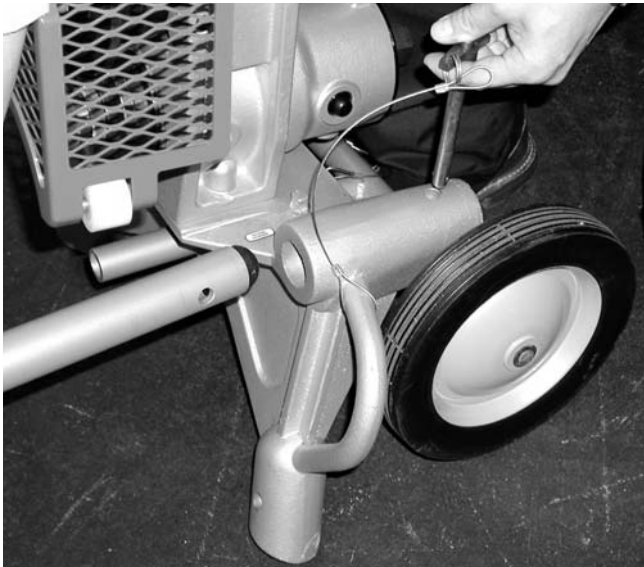

Figure 25 – Attaching the Support Legs
3. Place the groover support legs into the base and insert the hitch pins (Figure 25). The support legs can be used as handles to wheel the groover to the work area.